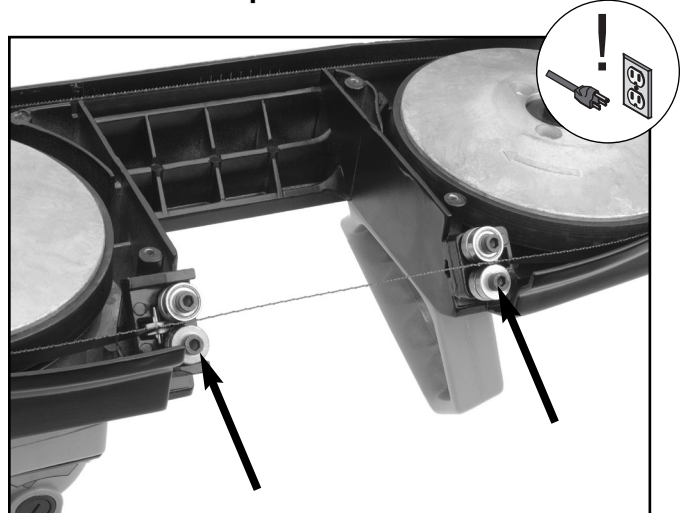

Figure 10. Blade guide bearings.
5. Remove the outer blade guide bearings by removing the cap screws shown in Figure 10.